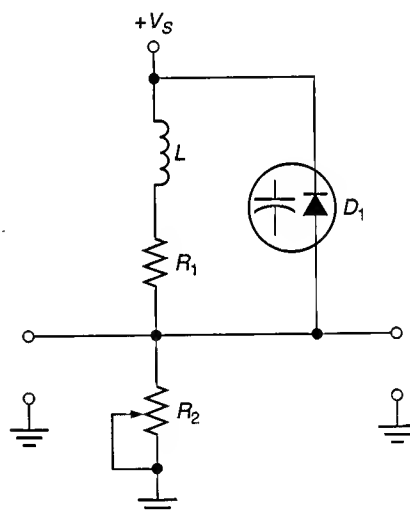

FIGURE 5.5 LC tank circuit.
Varactors are used almost exclusively in *tuned circuits*, which are discussed in detail in Chapter 17. A tuned LC circuit that contains a varactor is shown in Figure 5.5. Note that the capacitance of the varactor is in *parallel* with the inductor. Thus, the varactor and the inductor form a *parallel LC circuit*, or *LC tank circuit*.
The LC tank circuit shown in Figure 5.5 has a 1 mH inductor. The varactor has the following specifications: $C_i = 100$ pF when $V_R = 5$ V, and $C_R = 2.5$ for $V_R = 5$ to 10 V. Determine the resonant frequency for the circuit at $V_R = 5$ V and $V_R = 10$ V.
A circuit like the one shown in Figure 5.5 has a 3.3 mH inductor and a varactor with the following specifications: $C_i = 51$ pF at $V_R = 4$ V and $C_R = 1.8$ for $V_R = 4$ to 10 V. Determine the value of f_r for $V_R = 4$ V and $V_R = 10$ V.
The diode in Figure 5.5 is replaced with one that has ratings of $C_i = 100$ pF when $V_R = 5$ V and $C_R = 1.02$ for $V_R = 5$ to 10 V. Determine the frequency range of the circuit for $V_R = 5$ to 10 V.
8. Explain the operation of the circuit shown in Figure 5.5.